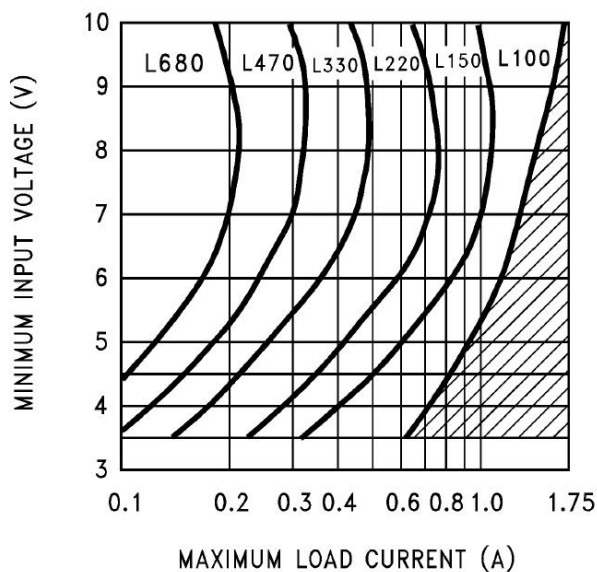

FIGURE 7. D2577-12 Inductor Selection Guide
1. For 12V or 15V output From Figure 7 (for 12V output) or Figure 8 (for 15V output), identify inductor code for region indicated by $V_{IN(min)}$ and $I_{LOAD(max)}$. The shaded region indicates conditions for which the D2577 output switch would be operating beyond its switch current rating. The minimum operating voltage for the D2577 is 3.5V. From here, proceed to step C.